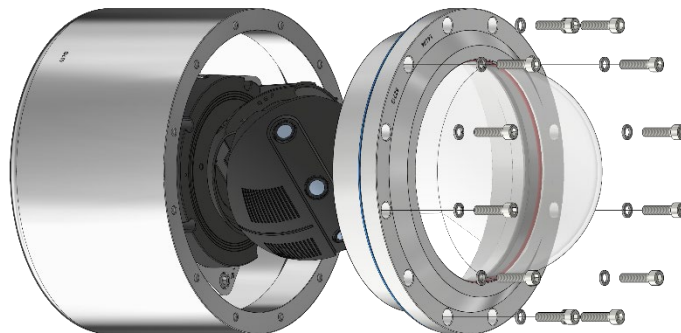

Fig. 6-1 Opening the RoughCam T10-VA4.1K.PS1
- Carefully pull out the dome flange strictly vertically/perpendicularly (see Figure 6-1). There is a risk of side tilt! Because of negative pressure it may be difficult to remove.